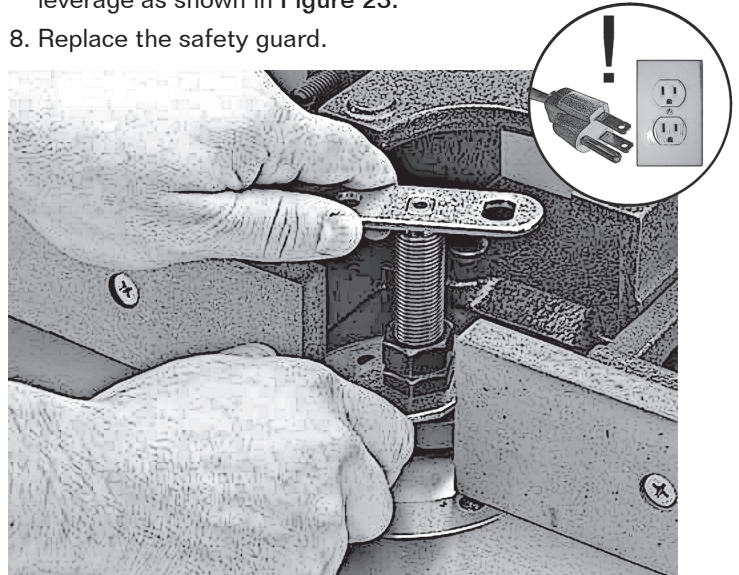

Fig 23. Tightening spindle nuts.
7. Tighten the nuts while holding the spindle stationary. Place a spindle wrench on the notches at the top of the spindle for leverage as shown in Figure 23.